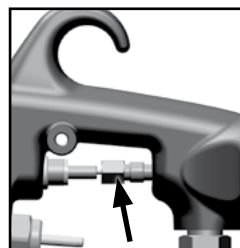

Fig. 8
2. Completely unscrew needle packing nut. (See fig 8)
8. Gently tighten needle packing nut. DO NOT OVER TIGHTEN. (See fig 8)
10. Operate gun with fluid and adjust tightness of packing nut as necessary to prevent fluid leak. (See fig 8)